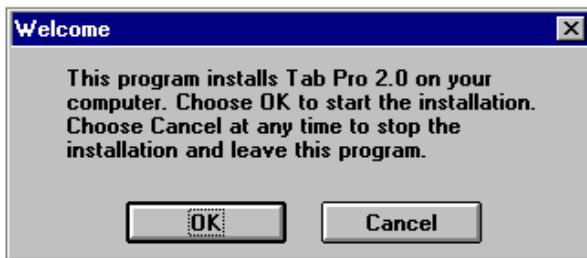

FIGURE 32. TabPro Welcome Dialog
- 8.65 Click the 'OK' button on the 'Welcome' dialog. See Figure 32.